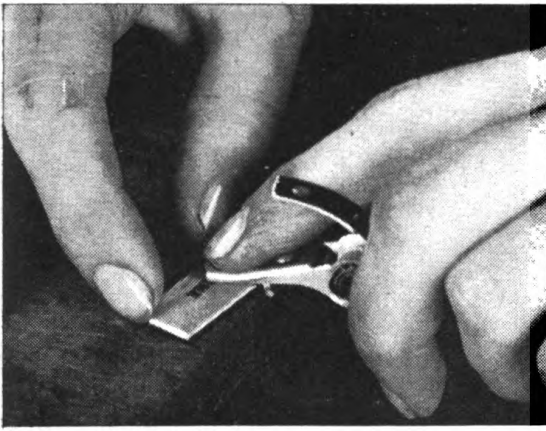

Fig. 49. Stoning off Contact Points
1. If contact points have blue or black surface, it must be removed. This should be done on a whetstone and NOT A FILE. Use a very fine stone, setting the point as nearly square on the stone as possible. Rub so that the point is made flat. It is essential to leave a very smooth surface on the point. Fig. 49.